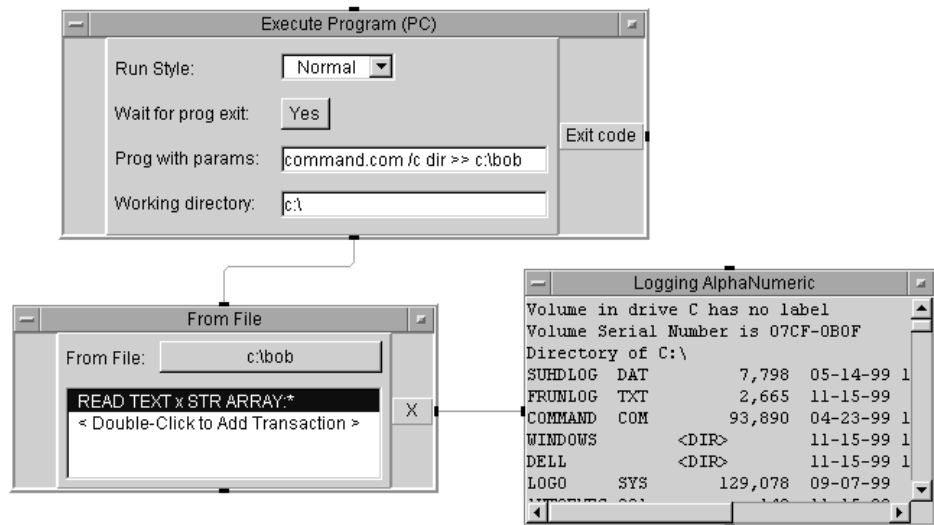

Figure 179 Listing the Files in a Directory
- c Click on the **SIZE: (10)** field to toggle it to **TO END: (*)**, then click **OK**. The transaction bar should now read: **READ TEXT x STR ARRAY:***. This transaction will read the contents of the bob file.
- 5 Run the program. It should look like Figure 179.